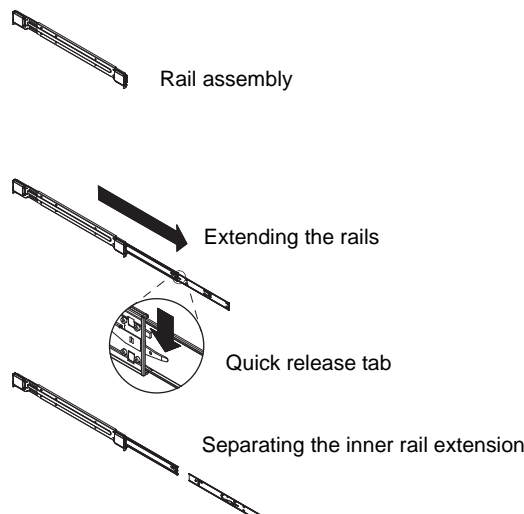

Figure 2-1 Separating the Small Quick-Release Rails
1. Separate the inner and outer rails on each assembly (refer to Figure 2-1):